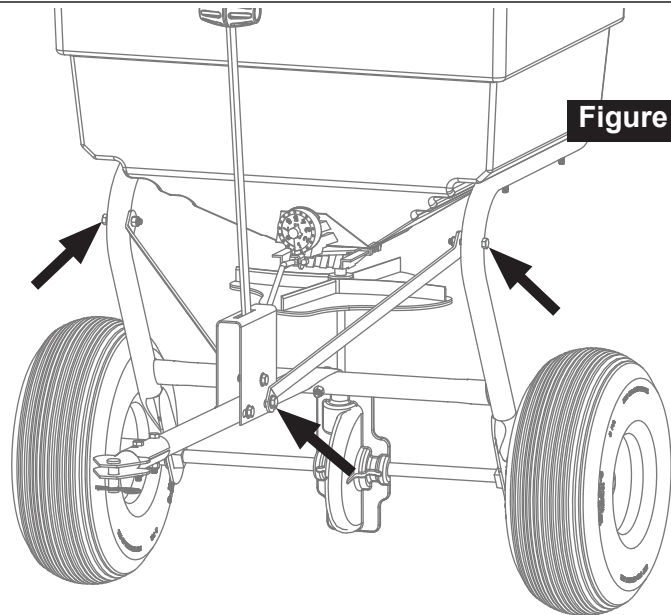

Figure 13
18. Install Frame Braces to Frame using 1/4-20 x 1-3/4" Bolt, 1/4" Washer (one on each side) and 1/4" Nylon Insert Locknut, Figure 13.